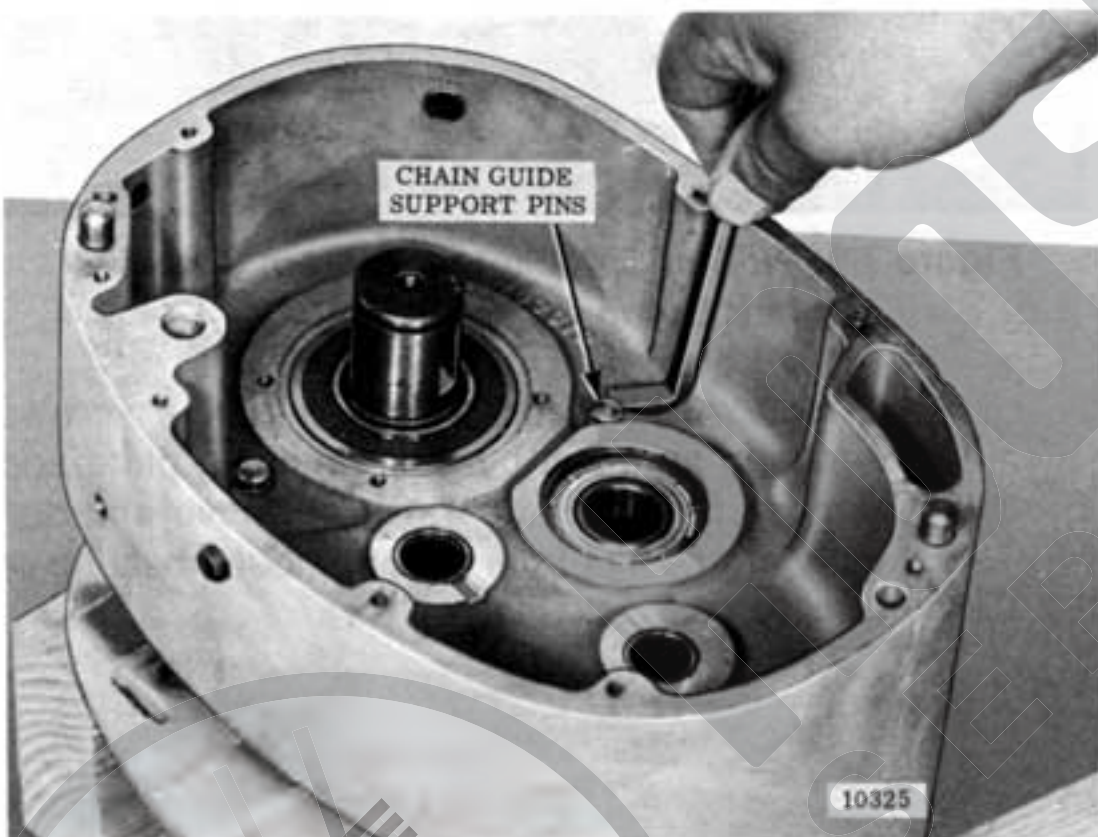

Figure 7-12. Removing Chain Guide Support Pins Using Pry Bar.
- (3) Using suitable pry bar (Figure 7-12) partially raise three chain guide support pins from their bores in frame. Pull them the rest of the way out using pliers with jaws protected to avoid damaging pins. Remove and discard two "O" ring gaskets from grooves on each support pin.